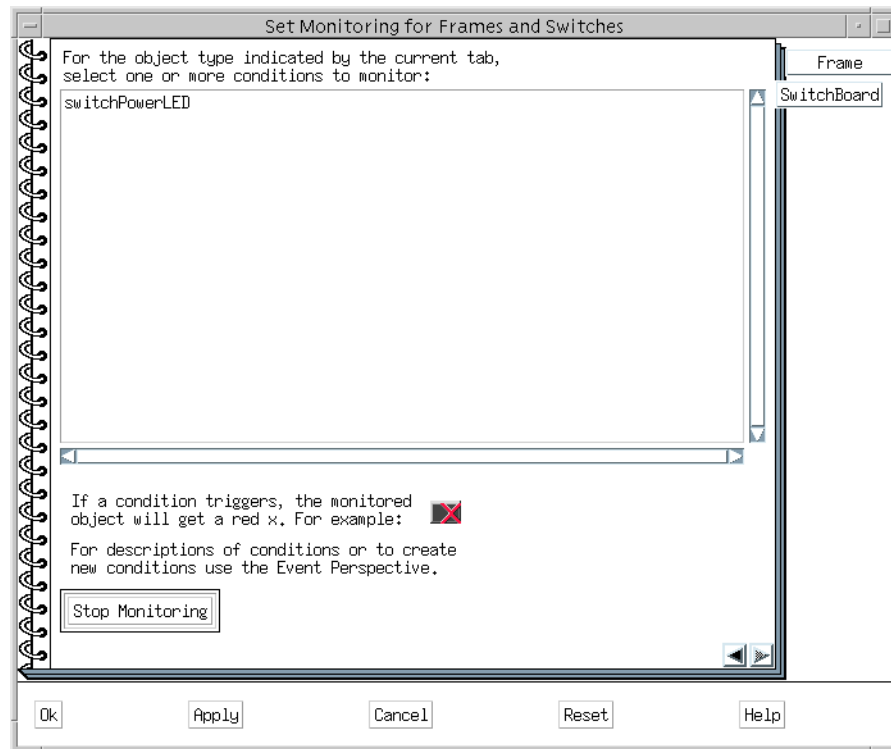

Figure 62. SwitchBoard page of set monitoring notebook
3. You will see the Set Monitoring for Frames and Switches notebook as shown in Figure 62.
To stop monitoring, click **Stop Monitoring** in the Set Monitoring for SwitchBoard notebook as shown in Figure 62 on page 259 or simply terminate the Hardware Perspective.